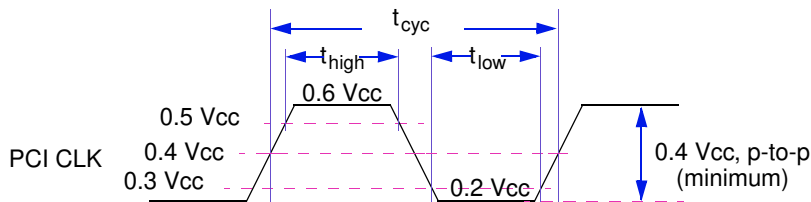

Figure 9. PCI CLK Waveform
The MPC5200B is always the source of the PCI CLK. The clock waveform must be delivered to each 33 MHz or 66 MHz PCI component in the system. Figure 9 shows the clock waveform and required measurement points for 3.3 V signaling environments. Table 22 summarizes the clock specifications.
2. Rise and fall times are specified in terms of the edge rate measured in V/ns. This slew rate must be met across the minimum peak-to-peak portion of the clock waveform as shown in Figure 9.